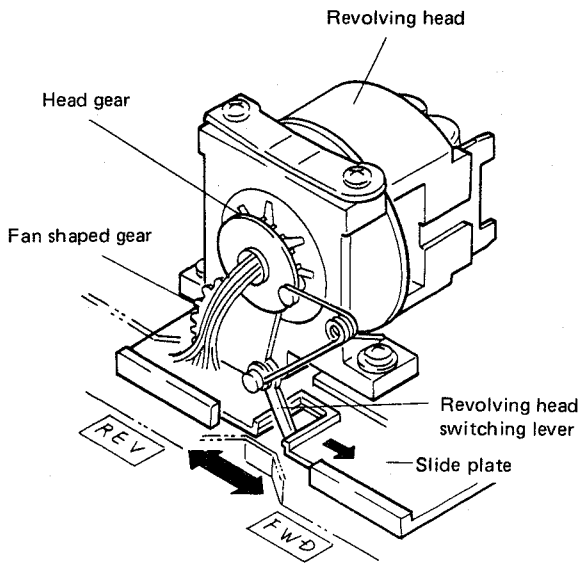

Fig. 1-6 Removing head switching
- (1) When the slide plate is slid across to the right as indicated in Fig. 1-6, the end of the revolving head switching lever is caught by a slit in the switching slide and is shifted across to the right as well. The fan-shape gear is consequently rotated counter clockwise, and the revolving head coupled to this gear is rotated by 180° to set the head in the FWD recording/playback position.
- (2) The slide plate is shifted across to the left to set the head in the reverse recording/playback position.
- (3) A spring is used to set the head into position by snap action and thereby ensure that head is always set in the correct position.